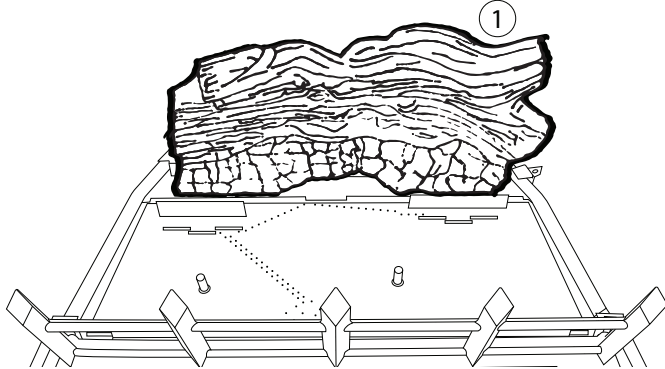

Figure 48.
1. Place the rear log (#1) on the rear pins located on the log support bar. (See Figure 48.)